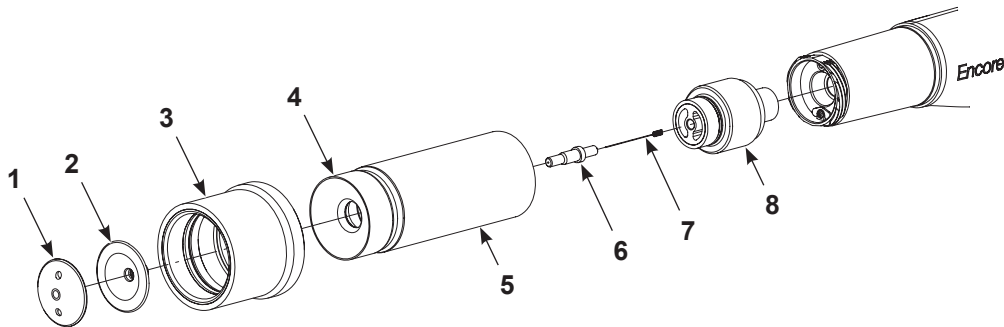

Figure 8 Cleaning a Conical Nozzle
1. See Figure 8. Hold the deflector (2) with finger while unscrewing the deflector cap (1). Gently pull the deflector (2) off the conical electrode holder (6).
2. Unscrew the nozzle nut (5) counterclockwise and remove the nut, conical nozzle (4) and pattern sleeve (3) from the spray gun.
5. Inspect the electrode holder (6). If the electrode support is worn or damaged, unscrew it from the electrode support (8), then remove the electrode (7). Install the electrode in the new holder, then screw the holder into the electrode support. Install the electrode support assembly (6, 7, and 8) into the spray gun.